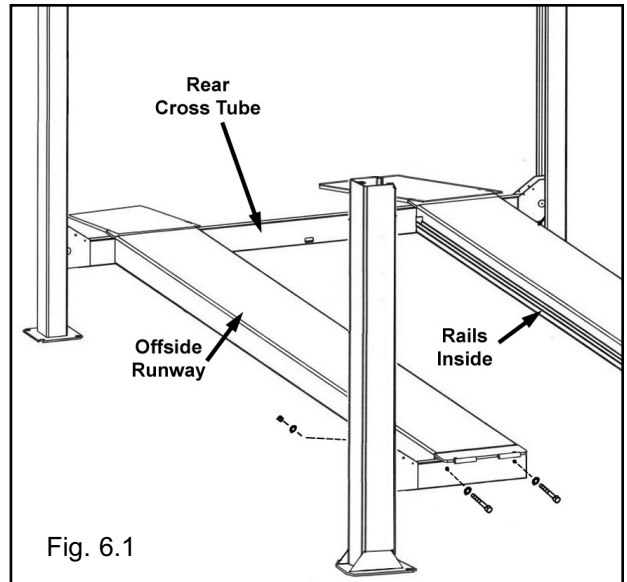

Fig. 6.1
1. Position the offside runway on top of the cross tubes with the utility rail located inside. (See Fig. 6.1)